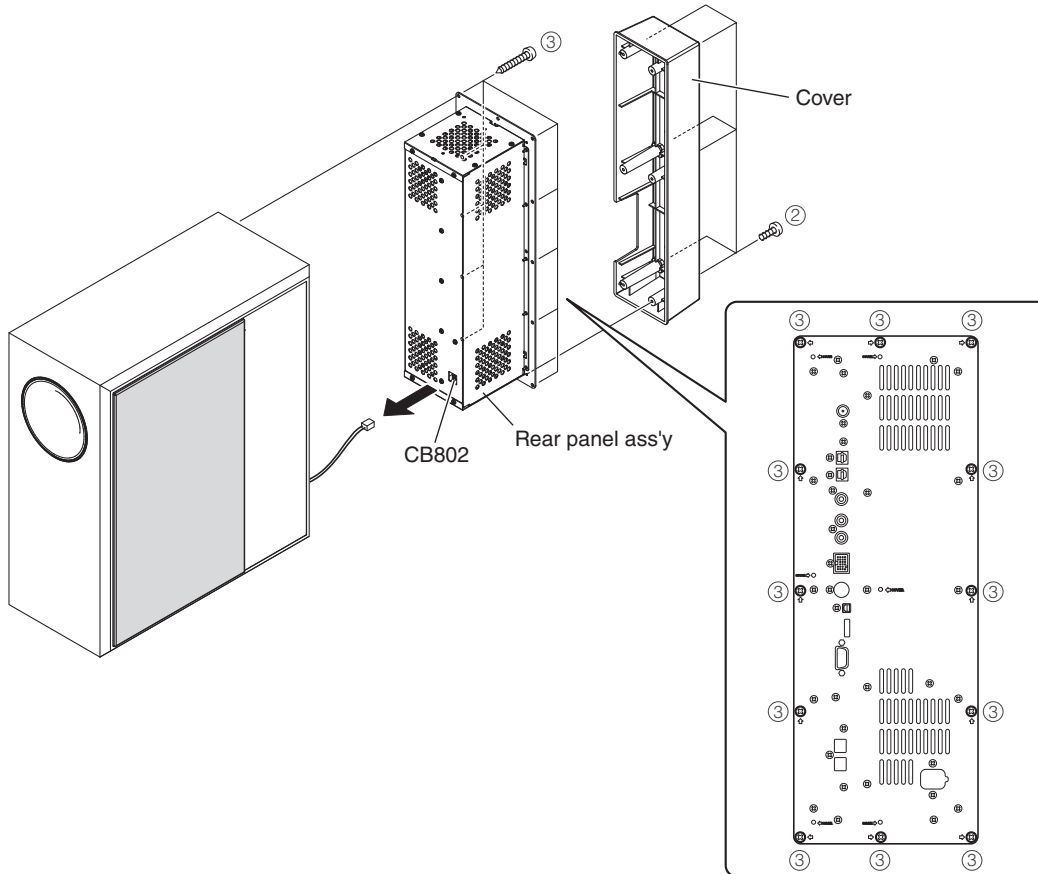

Fig. 3
a. Remove 6 screws (②). (Fig. 3)
* Screws (②) are identified with arrow marks (COVER ⇨).
b. Remove the cover. (Fig. 3)
a. Remove 12 screws (③). (Fig. 3)
* Screws (③) are identified with arrow marks (⇨).
b. Pull out the rear panel ass'y. (Fig. 3)
c. Remove CB802. (Fig. 3)
d. Remove the rear panel ass'y. (Fig. 3)